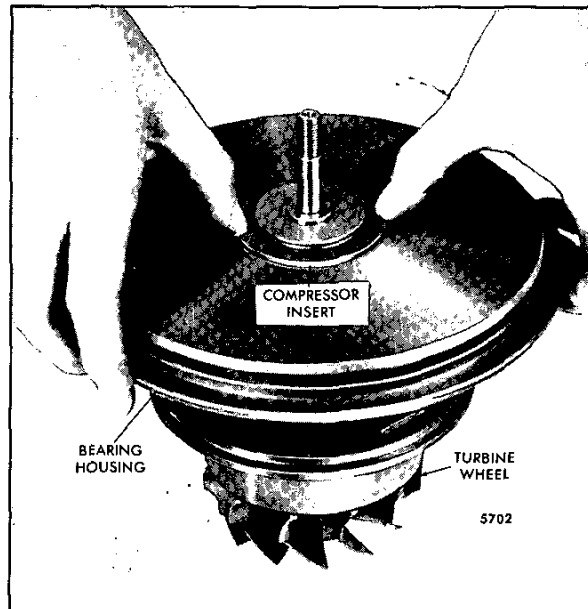

Fig. 16 - Installing Compressor Insert in Bearing Housing
12. Lubricate the thrust cavity in the bearing housing and install the insert, oil deflector and thrust sleeve assembly over the shaft and into the bearing housing (Fig. 16). Align the oil deflector to mate with the oil drain cavity in the bearing housing.